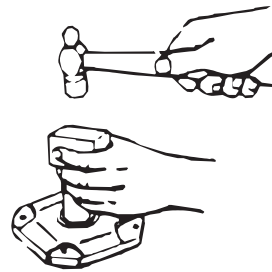

Figure 3
- E. Protect seal lips when handling; seal leakage will result if these are damaged. If a seal with rubber coating on the outside diameter (O.D.) is used, no sealant is necessary. If no rubber coating is on seal O.D., coat seal cage bore with adhesive sealant. Coat seal lips with oil and carefully work seal into position. Before sliding seal into position, protect seal lips from shaft keyway edges by wrapping shaft with plastic tape coated with oil. Position garter spring toward the inside of the unit. Place a square faced pipe or tube against the seal O.D. and drive or press seal until fully seated as shown in Figure 3. Do not strike seal directly.